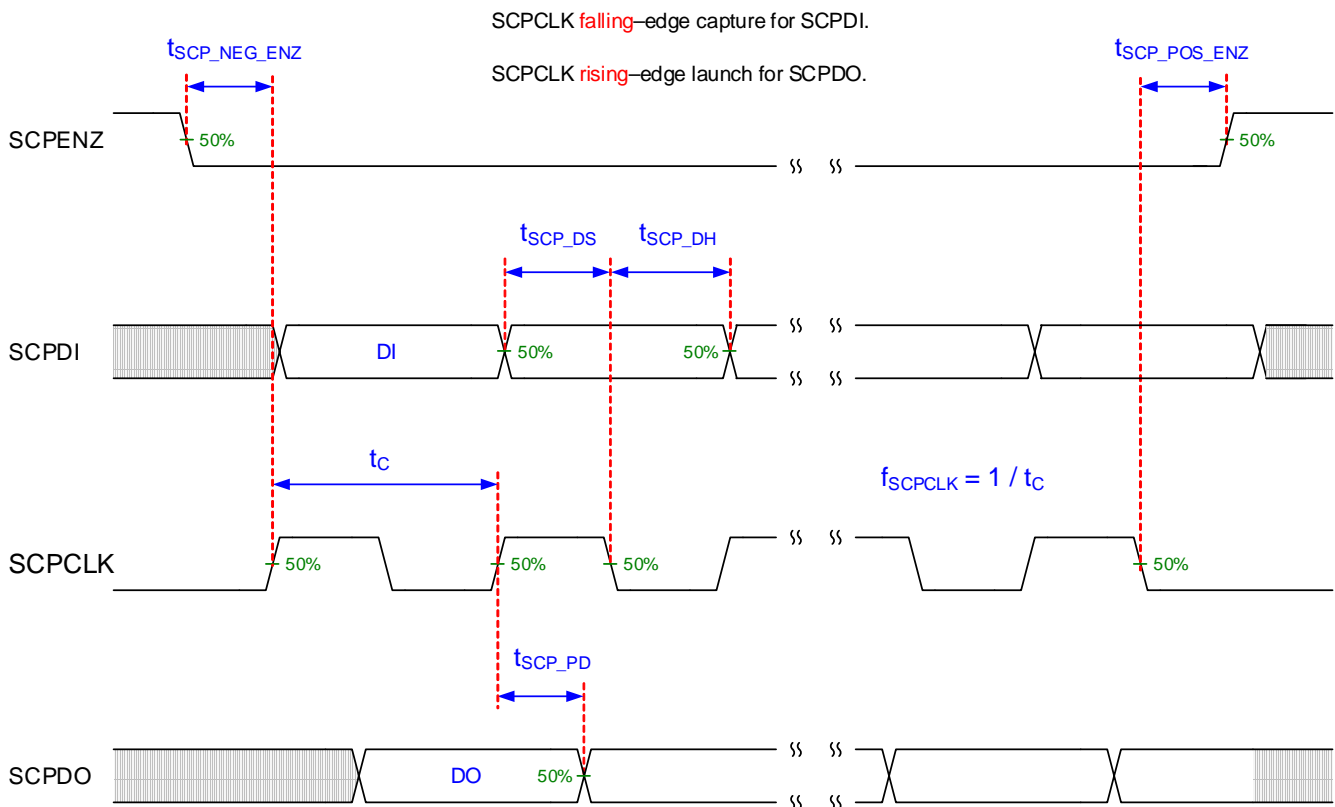

Figure 2. SCP Timing Requirements
(6) PWRDNZ input pin resets the SCP and disables the LVDS receivers. PWRDNZ input pin overrides SCPENZ input pin and tristates the SCPDO output pin.
(7) The SCP clock is a gated clock. Duty cycle must be $50\% \pm 10\%$. SCP parameter is related to the frequency of DCLK.
(8) See Figure 2.